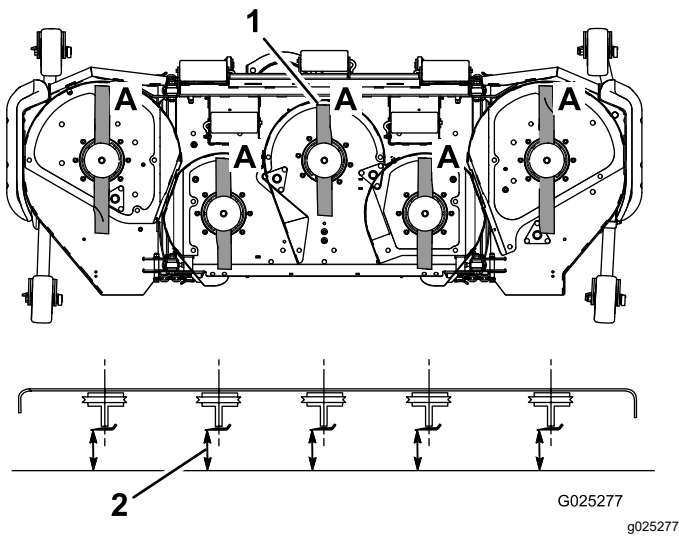

Figure 27
3. Rotate the blades until the ends face forward and backward (Figure 27).
4. Measure from a level surface to the cutting edge, position **A**, of the blades (Figure 27). Note this dimension.